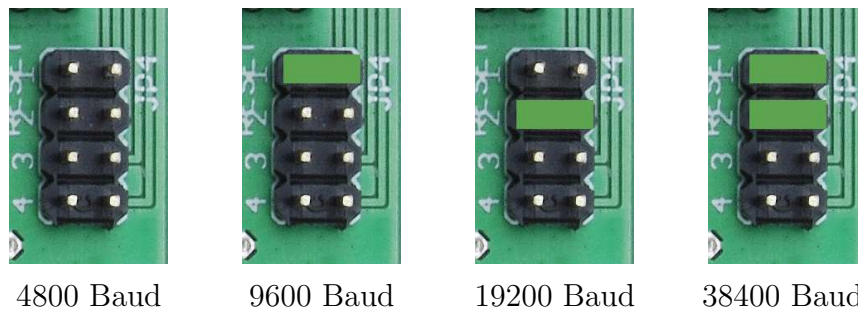

Figure 24: Jumper JP4 settings for the Baud rate for Firmware Ver. 25.
3. Jumper JP4 allows to change the Baud rate of the board between 4800 Baud and 19200 Baud, 8 bit, 1 stop bit, no parity, (38400 Baud with Firmware Ver. 25), see Figure 24 and 23.